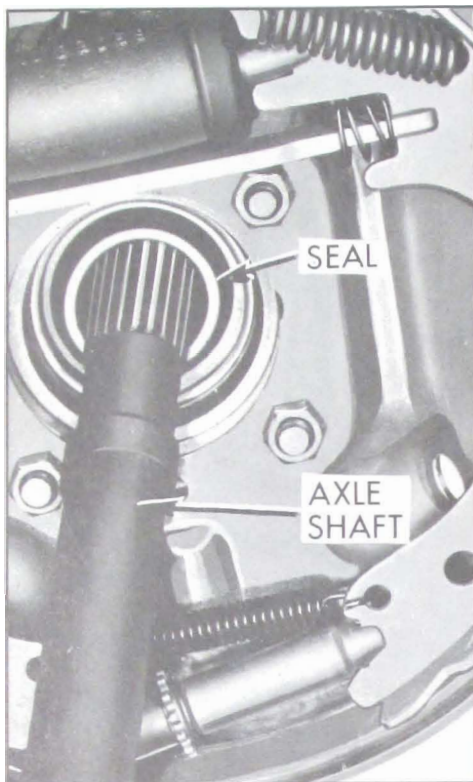

Fig. 6-9—Removing Axle Shaft Seal
2. Using axle shaft as a lever, push down on shaft until seal is pried from housing. See Figure 6-9.